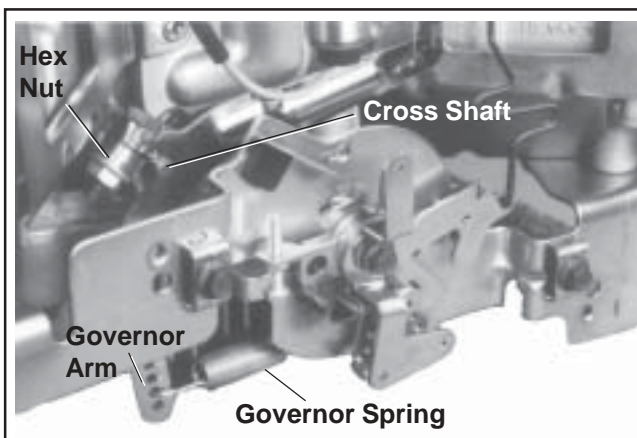

Figure 5-66. Governor Controls and Linkage (External).
- The regulating pin contacts the tab on the cross shaft causing the shaft to rotate. One end of the cross shaft protrudes through the crankcase. The rotating action of the cross shaft is transmitted to the throttle lever of the carburetor through the external linkage. See Figure 5-66.
Make this adjustment whenever the governor arm is loosened or removed from the cross shaft. See Figure 5-66 and adjust as follows:
Governor sensitivity is adjusted by repositioning the governor spring in the holes of the governor lever. If speed surging occurs with a change in engine load, the governor is set too sensitive. If a big drop in speed occurs when normal load is applied, the governor should be set for greater sensitivity. See Figure 5-66 and adjust as follows: